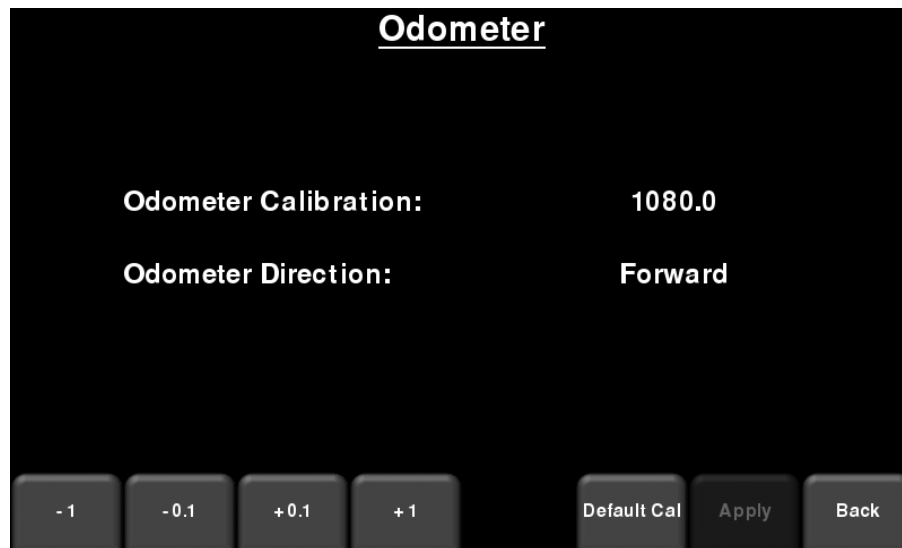

Figure 5-38: Manually setting odometer calibration value
- **Manual** – If you want to manually insert a value, it can be done using the buttons on the bottom of the screen to increment or decrement the calibration value (Figure 5-38).